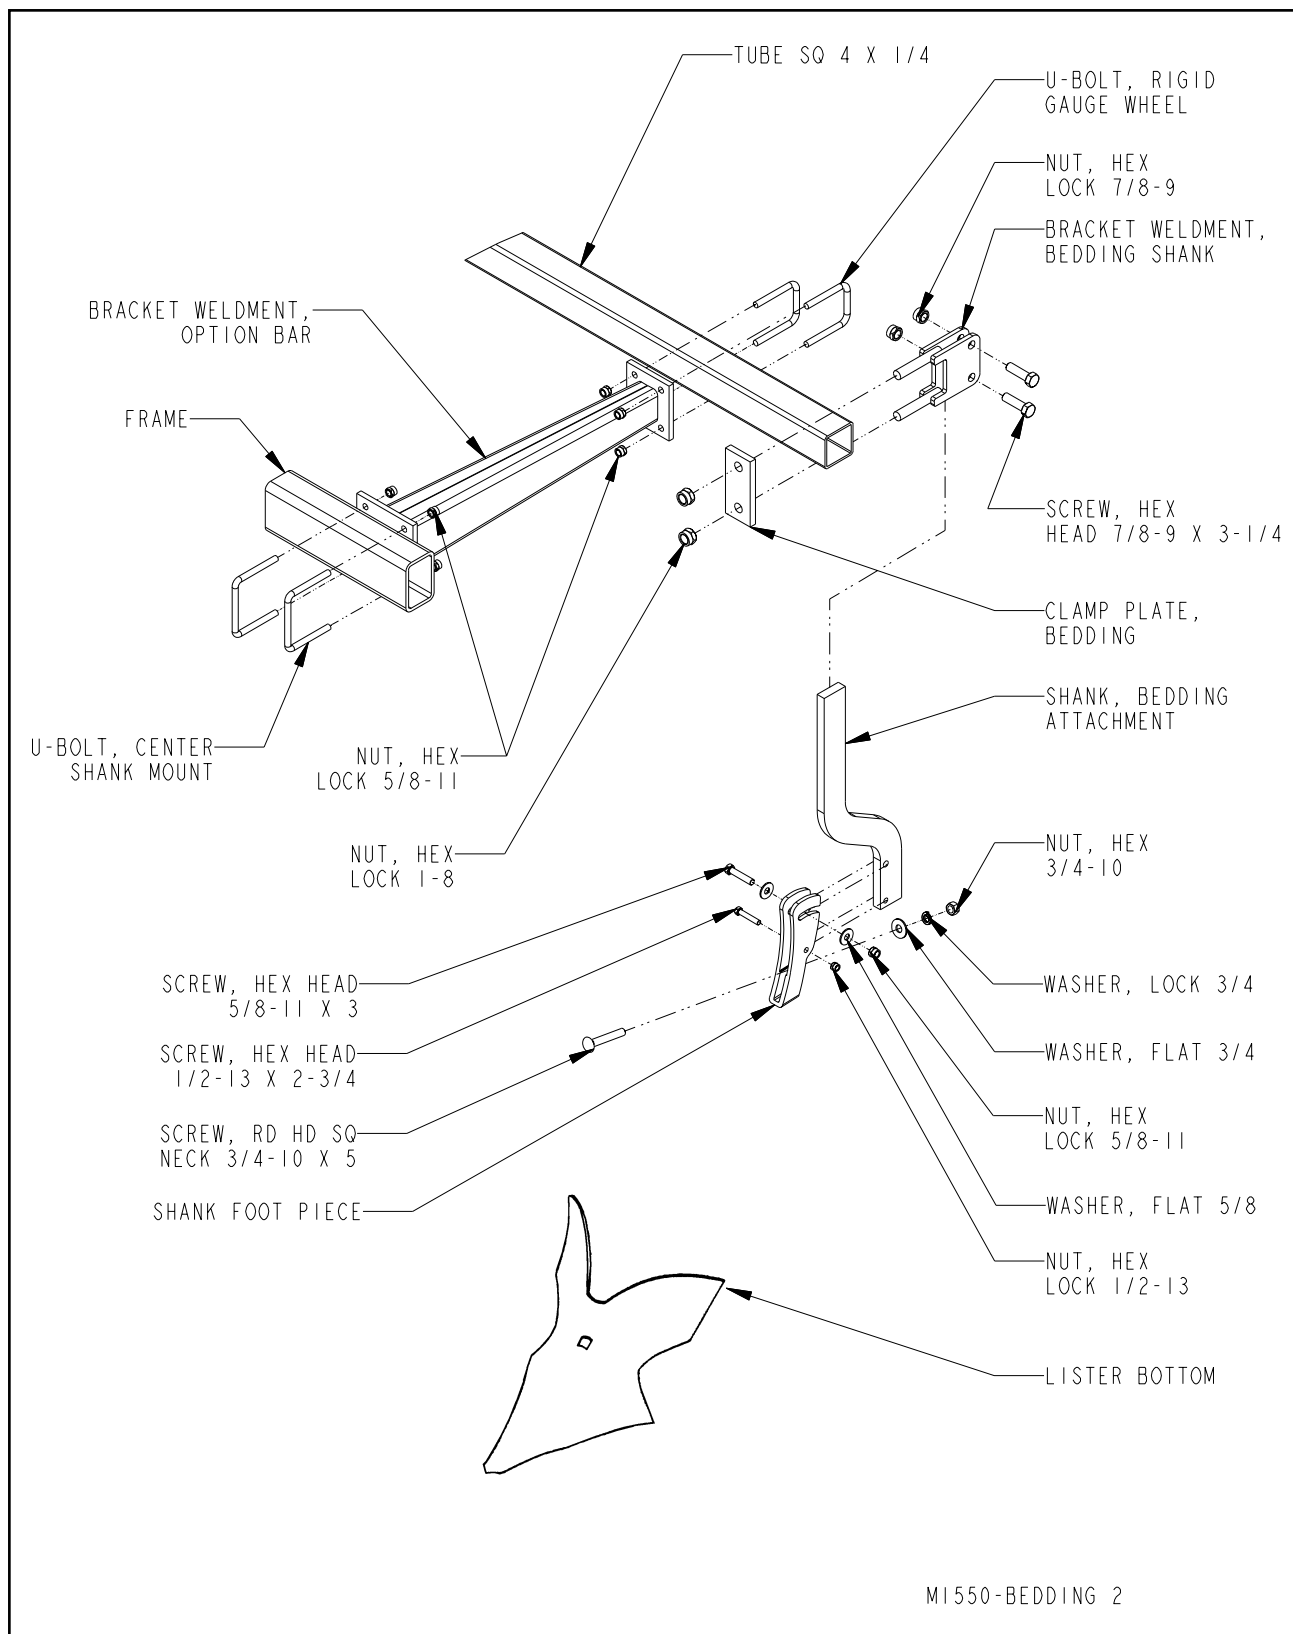

Figure 3-7 Bedding Attachment (Optional)
- 3-10.1** Attach bracket weldment, option bar to the frame using center shank mount u-bolts and 5/8-11 hex lock nuts (**See Figures 3-7 and 3-8**).